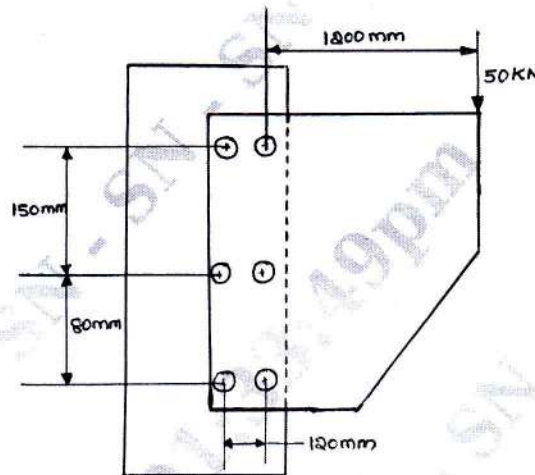

Fig.Q7(b)
- b. Determine the diameter of rivet for the joint shown in Fig.Q7(b). The allowable stress in the rivets is 100 N/mm^2 .